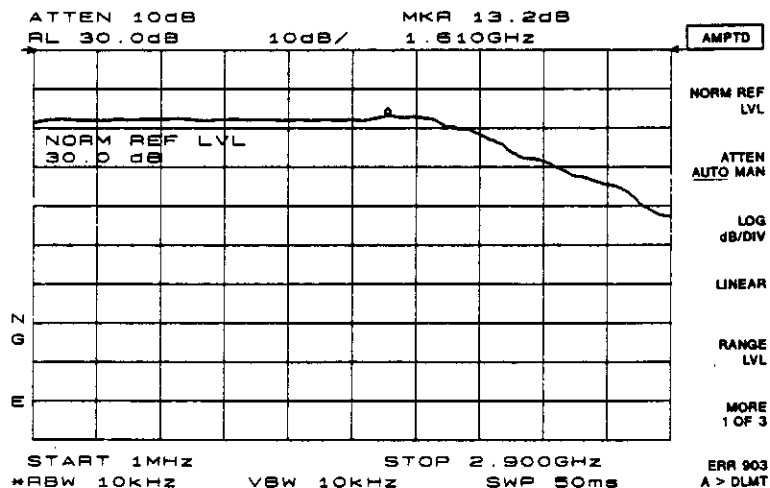

Figure 3-29. **NORM REF POSN is a trace function.**
By increasing **NORM REF LVL** to 30 dB, as shown in Figure 3-29, the trace moves down on the screen. Note the following three instrument parameters: (1) the input attenuator value still remains at 10 dB, (2) the marker-amplitude readout displays 13.2 dB, and (3) the ERR 903 A>DLMT error message is still displayed, even though the signal appears to be fully within the graticule.
Hence, Figure 3-29 shows that NORM REF LVL is a trace function that can position the active trace without changing analyzer settings. The ERR 903 A>DLMT error message is an indicator that the actual measured trace may fall outside of the analyzer’s measurement range with the current settings. By adjusting RANGE LVL, thereby changing the input attenuator and IF gain, compression-free measurements are assured.